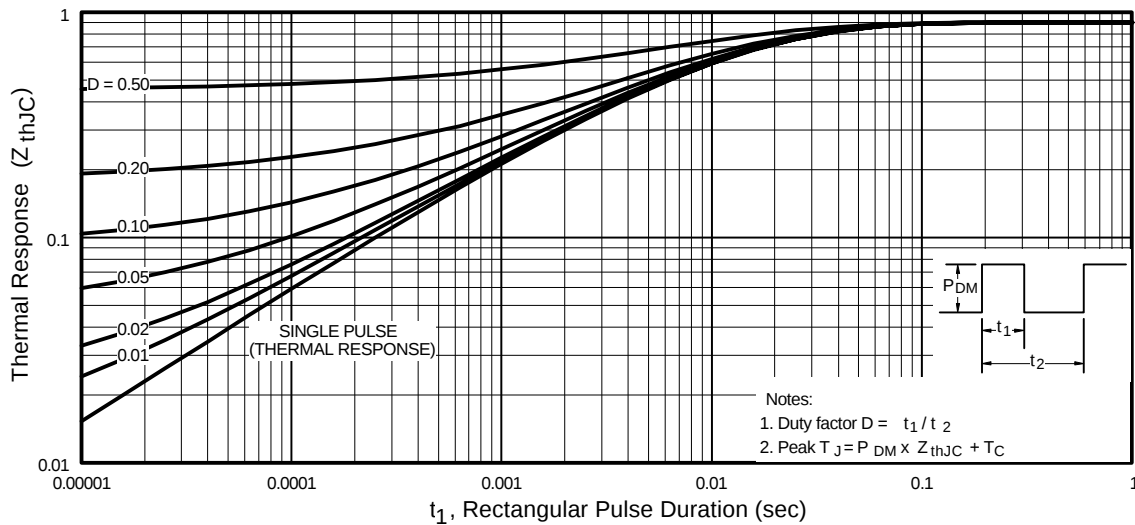

Fig 11. Maximum Effective Transient Thermal Impedance, Junction-to-Case
- ① Repetitive rating; pulse width limited by max. junction temperature. (See fig. 11)
② $V_{DD} = 15V$, starting $T_J = 25^\circ\text{C}$, $L = 0.18\text{mH}$